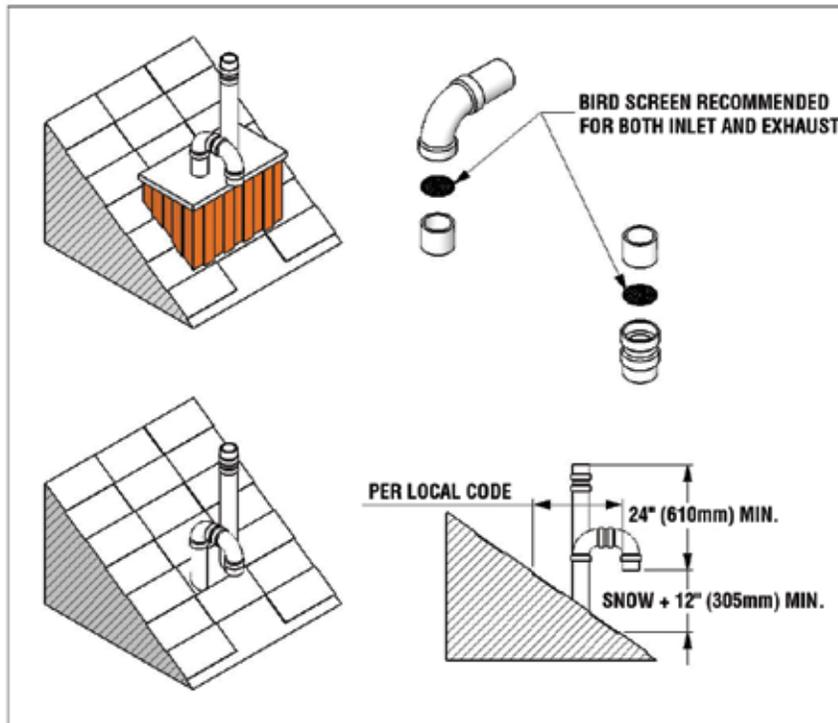

Figure 4: Rooftop vent terminal configurations
- If used, the intake air pipe is not typically drained, so it must be terminated with a down-turned elbow (see Figure 4). The intake pipe does not need to penetrate the roof at the same elevation as the exhaust (as shown); lower down roof is OK.